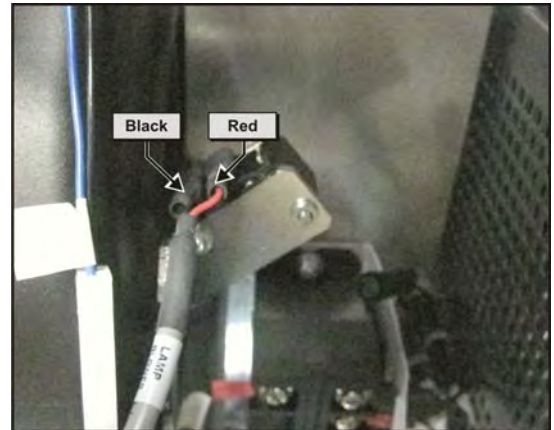

Figure 5-63 Blower Switch Leads
2. Remove the black and red leads. **(Figure 5-63)**